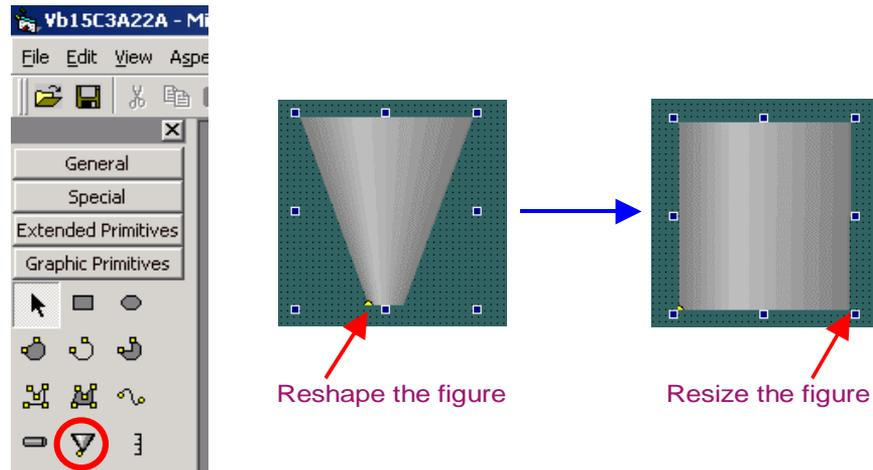

Figure 111. Creating Tank Body
1. Select Graphic Primitives. See Figure 111.